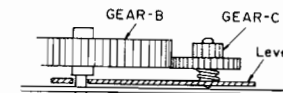

Figure 3 Lever Position
- D) Gear C is mounted to a lever (refer to figure 3), and it shifts either in the direction indicated by arrow S or in the opposite direction, in accordance with the direction in which gear B is turning.